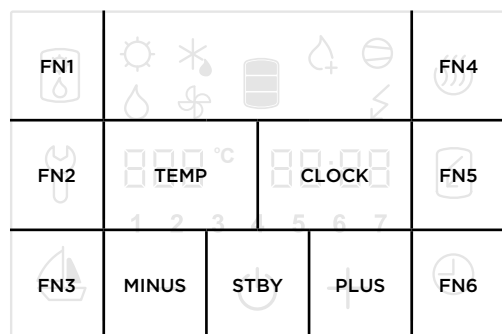

Figure 14: Fields display
- By pressing field no. 4, you can activate the maintenance mode (Figure 14).
- By pressing the right number (Field **CLOCK** in Figure 14) you proceed to the next parameter.